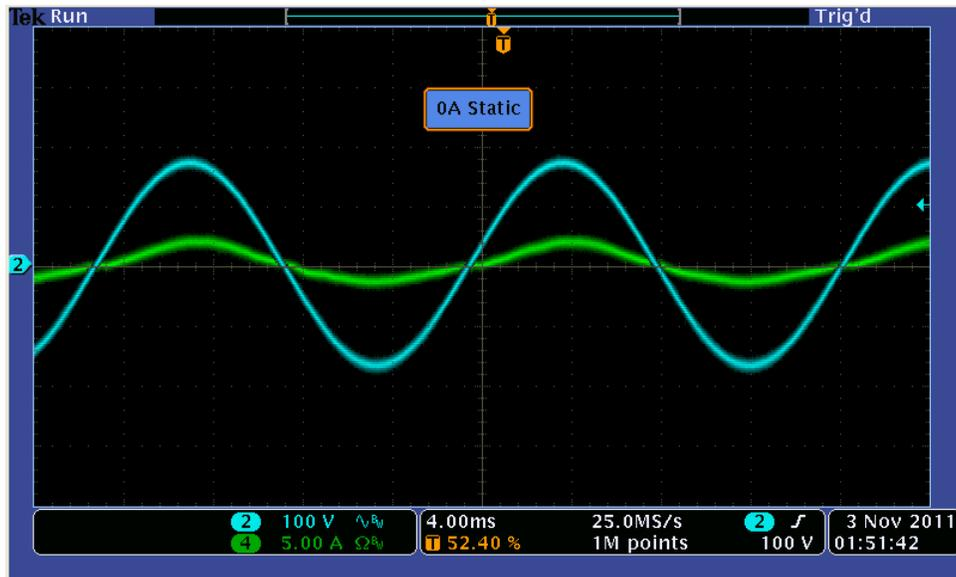

Figure 8. Tie Test 1, Ch2: Grid Voltage, Ch4: Solar Inverter Output Current, MPPT Panel Power 165 W
- The inverter will deliver 165 W of load power at 120 V/60 Hz, which will drop the AC source output power from an initial 290 W to 125 W. The AC source output will thus be 120 V_{RMS} /60 Hz at a load current of about 1.04 A_{RMS} . The waveforms in Figure 8 show the grid voltage and the inverter output current under this condition.